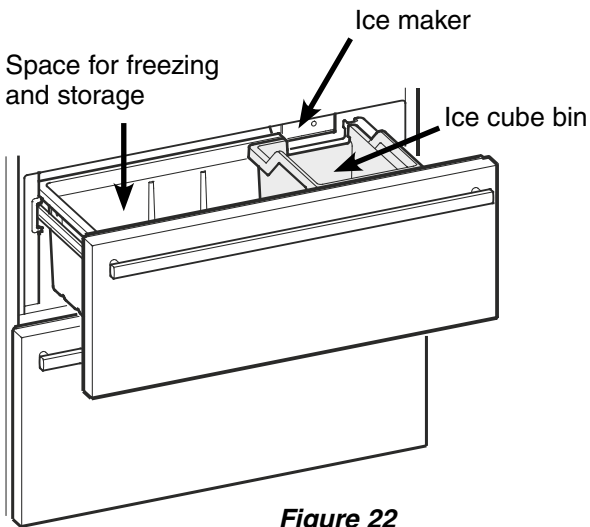

Figure 22
Freezer compartment description - Figure 22
- The ice maker can only make ice cubes if the upper freezer drawer is completely closed and the ice cube bin is installed correctly (**Figure 22**).
- Finally, clean the ice cube bin (**Figure 22**).
The ice cubes fall out of the ice maker into the ice cube bin (**Figure 22**). When the ice reaches a certain level in the bin, the appliance stops producing ice automatically. The ice maker will not fill the bin to the top.
Be sure the upper freezer drawer is completely closed and the ice cube bin is installed correctly. (**Figure 22**).